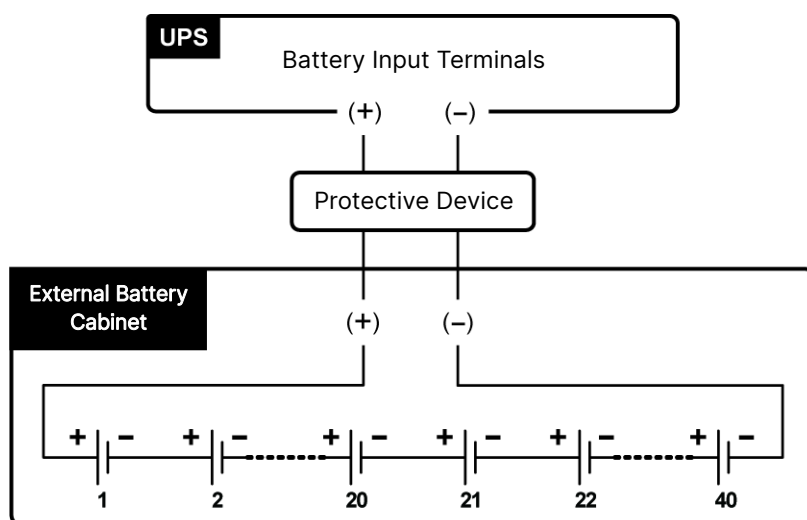

Figure 5-21: External Battery Cabinet Connection
- To connect the external battery cabinet(s) to the UPS, please refer to **5.4 Wiring** and **Figure 5-21**.